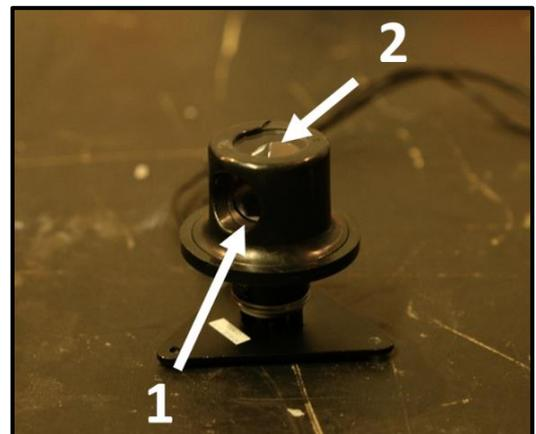

FIGURE 89: SCANNING MIRROR CLEANING
- B. Clean the Scanning Mirror (1. Figure 89) and the glass (2. Figure 89) with a soft cotton swab soaked with iso alcohol and / or drag a soft lens tissue or microfiber cloth on the mirror.